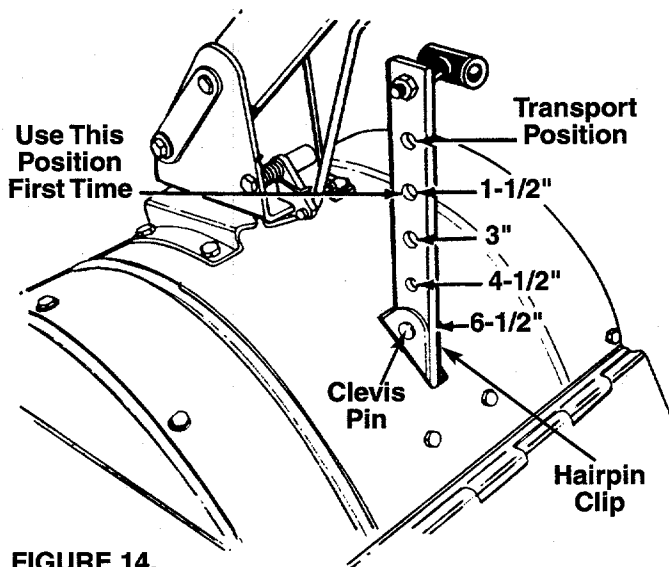
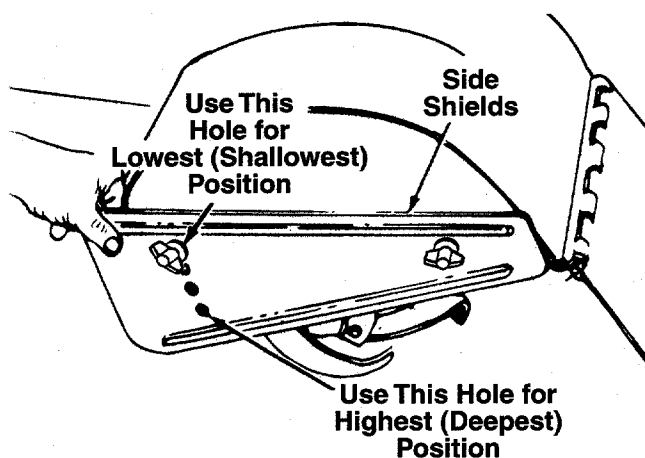

FIGURE 14.
FIGURE 15.
WARNING: When operating the tiller for the first time, use the depth stake setting that gives 1-1/2 inches of tilling depth (second hole from the top). See figure 14.
Tilling depth is controlled by the depth stake which can be adjusted to five different settings. See figure 14. Adjust the side shields as shown in figure 15, as you adjust the depth stake. Be certain spark plug wire is disconnected and grounded against the engine.
1. When using the tiller for the first time, use the second adjustment hole from the top (1-1/2" of tilling depth). See figure 14.
To adjust the depth stake, remove the clevis pin and hairpin clip. See figure 14. Move the depth stake to the desired setting.
To adjust the side shields, remove the wing nuts. See figure 15. Place side shield in position desired. Replace wing nuts and tighten securely.